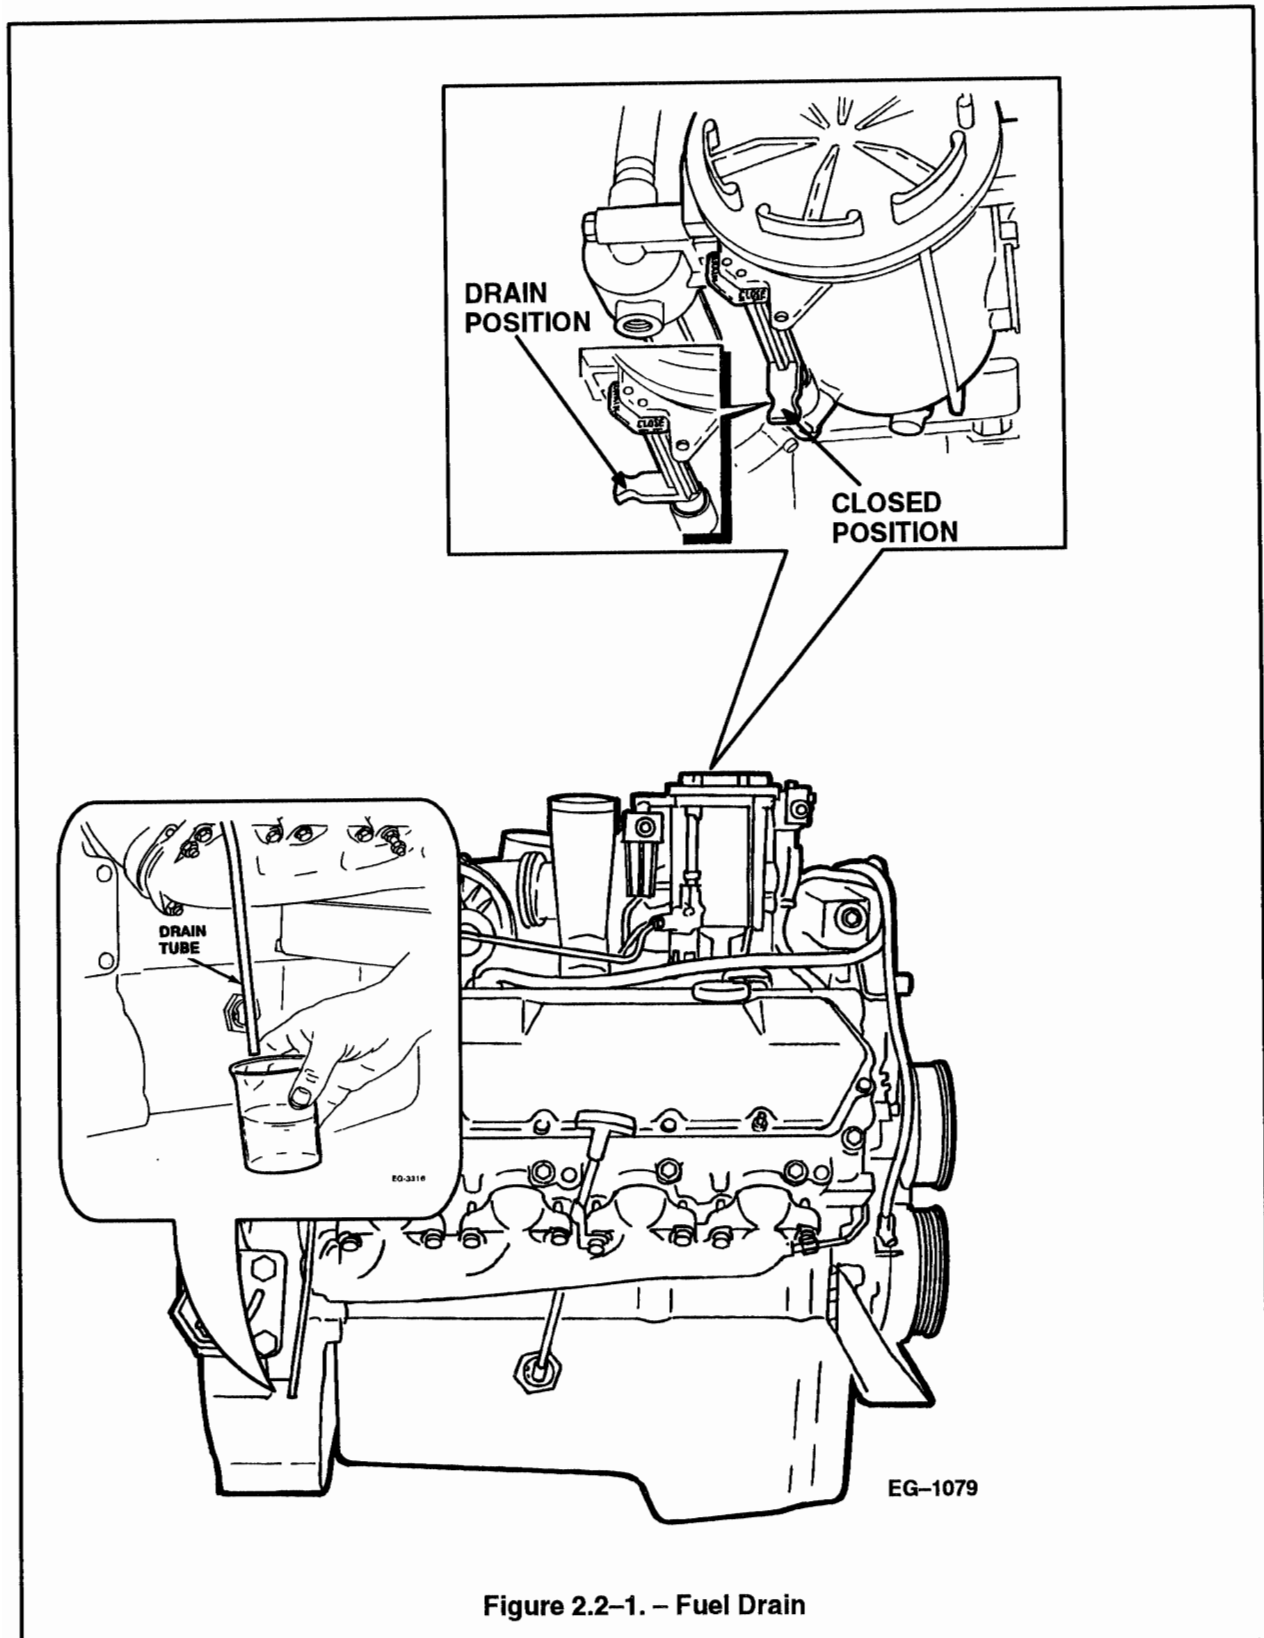

Figure 2.2-1. – Fuel Drain
1. Route a hose from the fuel drain tube (**Figure 2.2-1.**) to a clear container and open the drain.